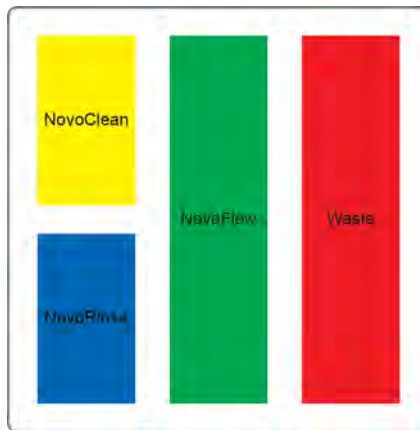

Figure 1-12 Schematic of the Container Position in the Fluidics Station
- ⚠ Please ensure that the container position in the fluidics station is correct (see Figure 1-12 and the label on the container). A similar label can be found on the left side of the fluidics station as well. The containers are color coded to match the illustrated position as well.